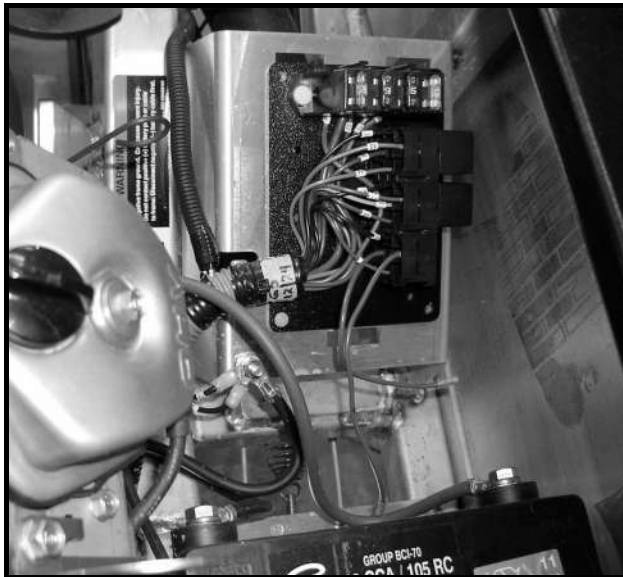

Figure 11a-5 Electrical Component Mounting Plate
- If a fuse is blown, determine the cause of the failure and make necessary repairs before a new, properly rated fuse is installed. If a fuse with a greater amperage rating is used as a replacement, damage to the vehicle's electrical system may occur. See Figure 11a-1, Page 11a-6 and Figure 11a-2, Page 11a-7.